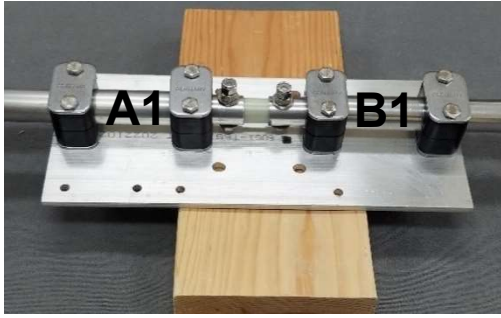

FIGURE 16
□ **STEP 6.16** Carefully pick up the element plate, by each long side edges, and place on two 4"x4"x2" support wood blocks. This allows space under the plate for the protruding HEX bolts, as shown in **FIG. 16**. Press down on all HEX bolts, to insure all 4 clamp assemblies are fully nested and seated, with HEX bolts through the element plate.